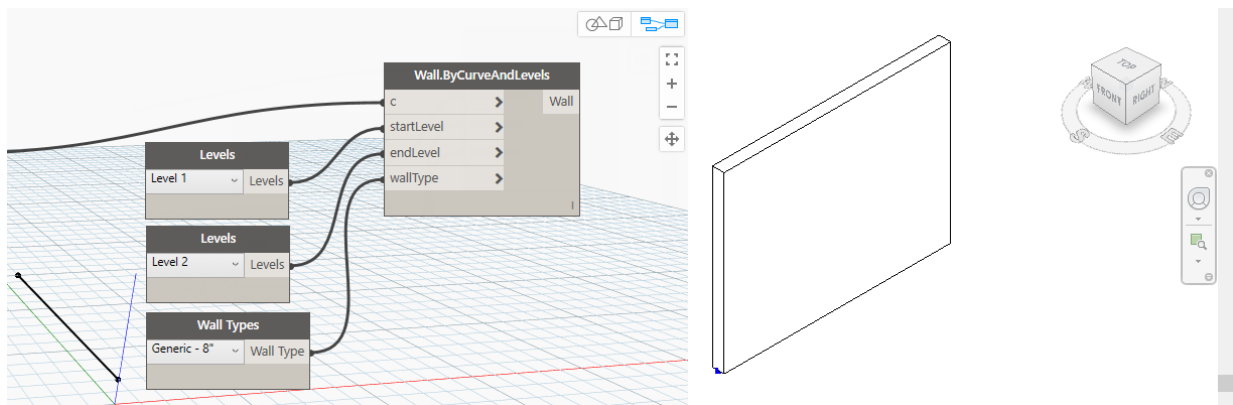

Figure 22
This node has four inputs: c stands for “curve.” To make a wall, we need a path for it follow. In programmer speak this is called a “curve.” This is “curve” in the math class sense of the word. So our line counts as a “curve.” As does anything with two endpoints; either a straight line or a curvy line and Dynamo still thinks of it as a curve⁵. We also need two levels to set the height and a wall type. Another useful habit to get into is to pause your mouse over the various inputs for a tooltip indicating more information on what that input expects (see Figure 22).
27. Choose: **Level 2** from the next one and wire it to: endLevel and then choose any wall type and wire it to the wallType port (see Figure 22).